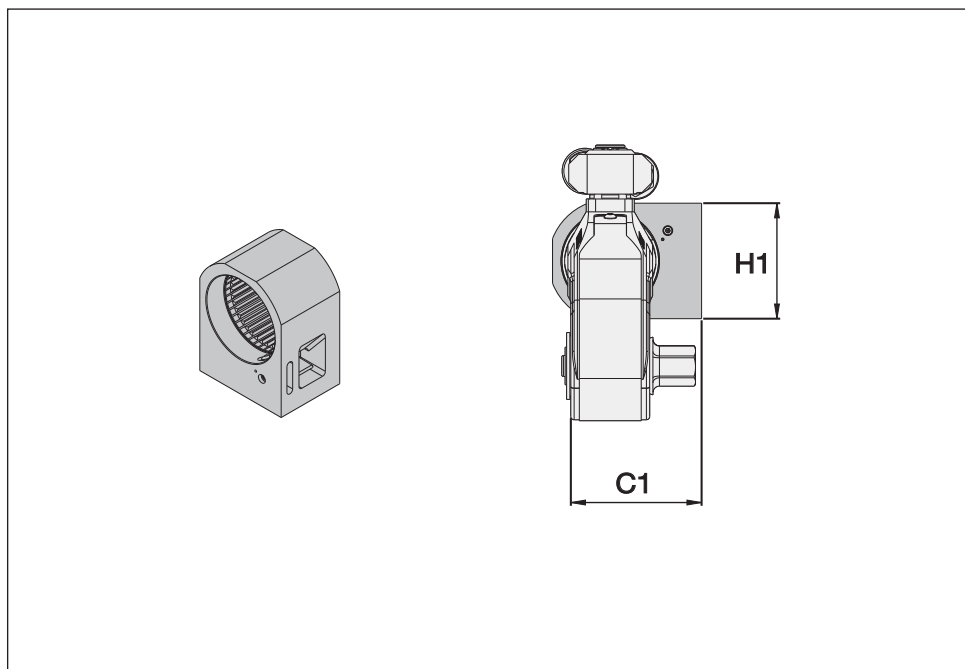

Fig. 30
6.4 Dimensions and Specifications, SRA Series Short Reaction Arms (Fig. 30)